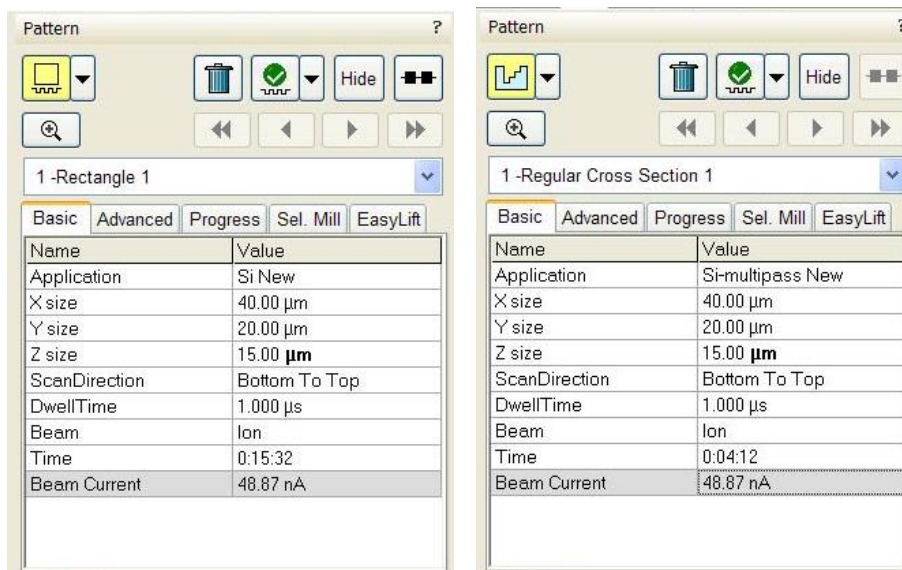

Figure 14
1. Select pattern shape in the pull-down menu of **Pattern** tab (left panel of Figure 14) and draw it in the Ibeam quadrant (pattern should be in yellow color); choose proper parameters in **Basic** and **Advanced tab** in **Pattern** tab (right panel of Figure 14): Application (**Si New** for rectangle pattern, **Si-multipass New** for regular cross-section and **Si-ccs New** for cleaning cross-section), X Y Z size, ScanDirection, etc.